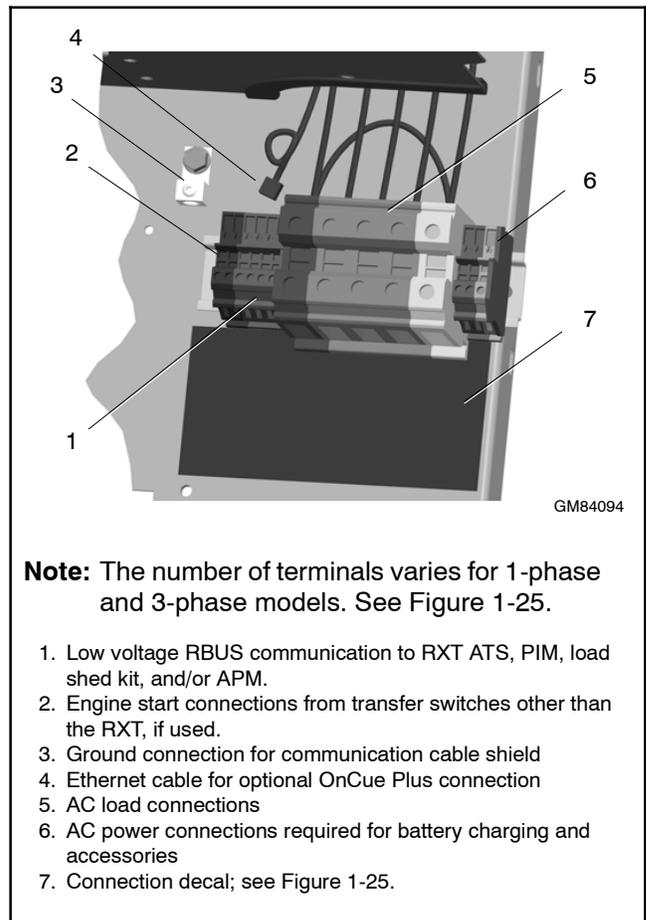
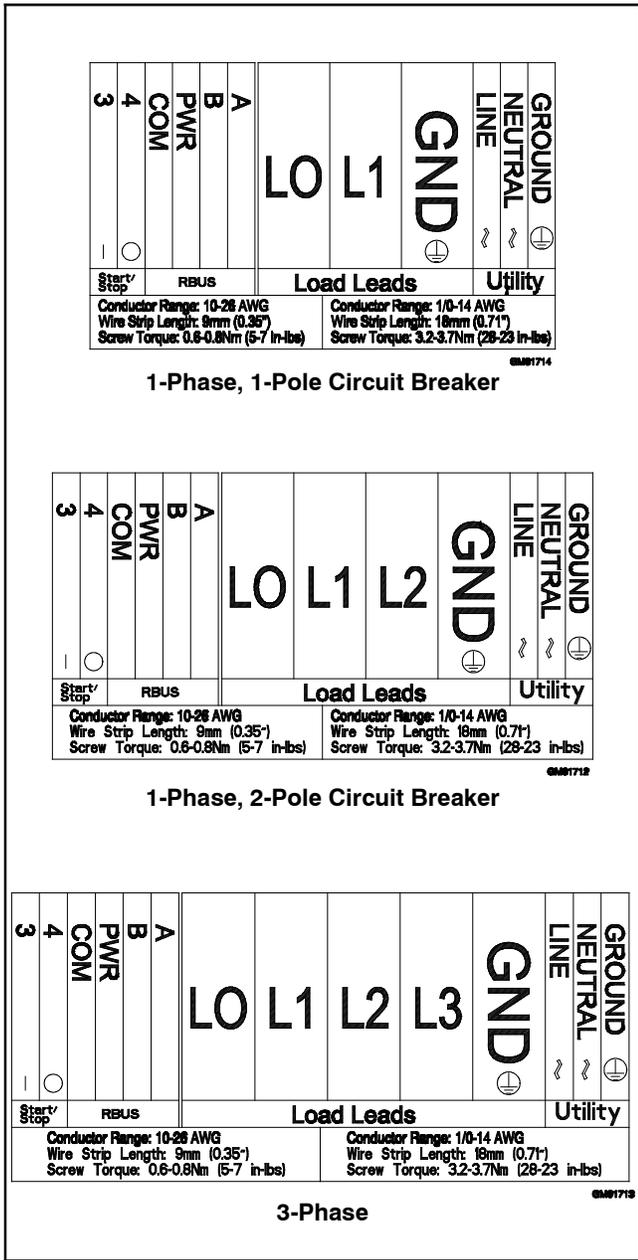

Figure 1-24 Field Connection Terminal Blocks
Figure 1-25 Terminal Block Connection Decals
See Figure 1-24 for terminal block details. Refer to the terminal block decal shown in Figure 1-25 for connections and cable sizes. Also see the wiring diagram in Section 3.
2. Connect the leads from the transfer switch emergency source lugs to the L1, L2, and L3 connections on the generator set terminal block as applicable for single or three-phase applications. See Figure 1-24 and Figure 1-25.
Note: The ground lug near the terminal block (item 3 in Figure 1-24) is used to connect the shield on the communication cable for the accessories.
- b. Use an RJ45 inline coupler to connect the Ethernet cable to the cable in the customer connection box. See Figure 1-24. The inline coupler is included with the OnCue Plus kit.
Be sure to disconnect power at the distribution panel before making the connections. Connect power leads to the AC power connection points labeled LINE, NEUTRAL, and GROUND on the field-connection terminal block. Connect the circuit to the load side of the transfer switch so that it is backed up by the generator. See Figure 1-24 and the wiring diagrams in Section 3 for connection details.